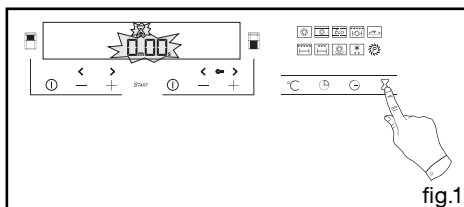

fig.1
- Press the  button (fig.1).
when the oven **is off**, hold down the + and - buttons for a few seconds (fig.1),